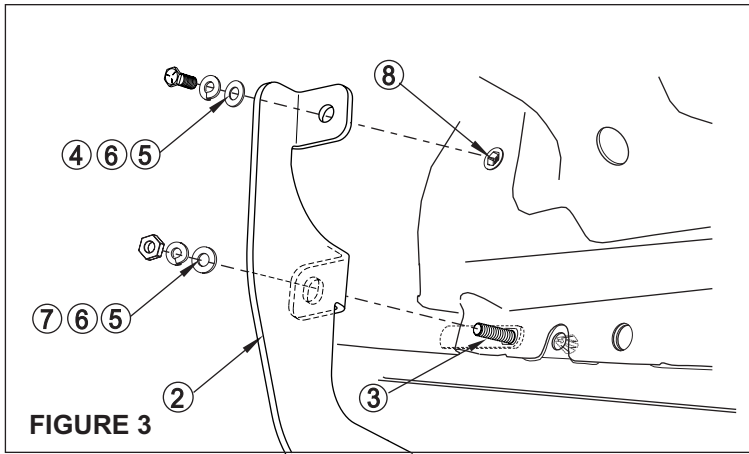
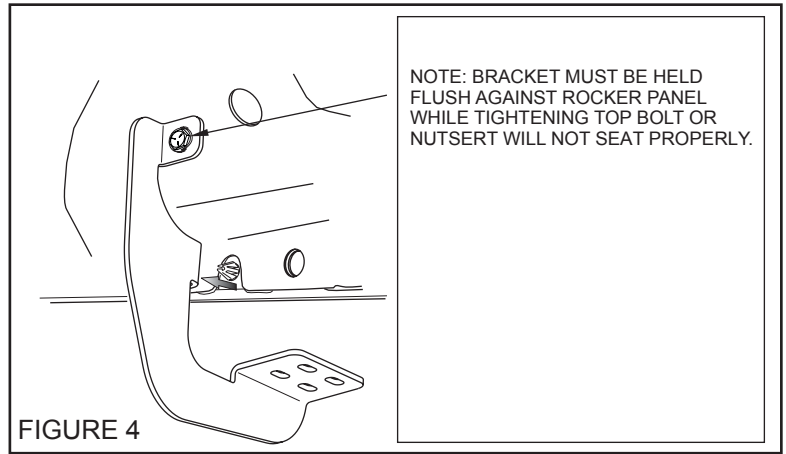

FIGURE 3
FIGURE 4
- STEP 4. Loosely attach brackets as shown. **SEE FIGURE 3.** Tighten top bolt to crimp rivnut until increased resistance is felt. Verify rivnut is not loose in hole, otherwise re-tighten. Hold bolt plate parallel to rocker panel and tighten bottom nut. **SEE FIGURE 4.**
- STEP 5. Re-attach trim panel as shown. **SEE FIGURE 4.**